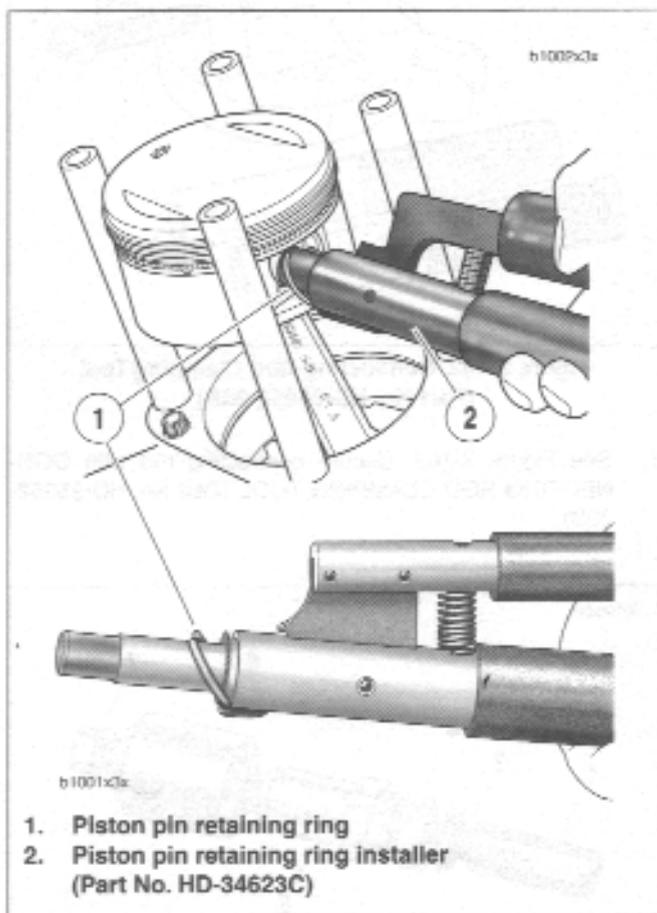

Figure 3-108. Installing Piston Pin Circlip
4. See Figure 3-108. Install new piston pin retaining rings (1) using PISTON PIN RETAINING RING INSTALLER (2) (Part No. HD-34623C). Place new retaining ring on tool with gap pointing up.